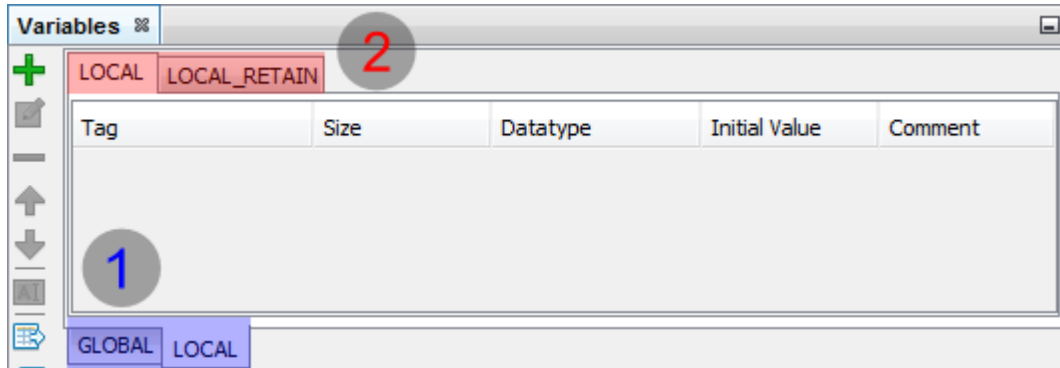

Figure 2: Variable Editor for the "LOCAL" Scope
The variables of the **LOCAL** scope (1) present the groups (2) as per figure 2.